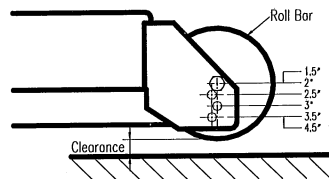

FIG 6
- e) Adjust anti-scalp rollers for Normal Operating Conditions. Stop engine, wait for all moving parts to stop, and remove key. Place rollers in one of the Position shown in Figure 6. Rollers will maintain 3/4 in. (19mm) clearance to the ground to minimize gouging and roller wear or damage.